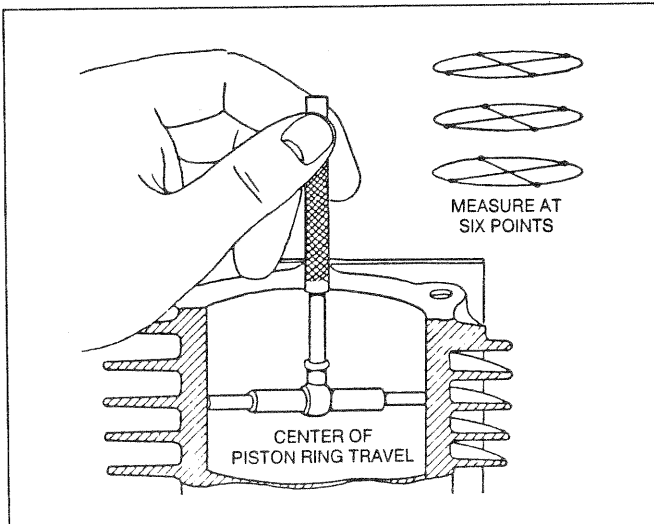

Figure 7. Checking the Cylinder Bore
Always inspect the engine cylinder after the engine has been disassembled. A close visual inspection will reveal any cracks, stripped bolt holes, broken fins, damaged cylinder walls, etc. Use a telescoping gauge and a dial indicator, or an inside micrometer, to measure the size of the cylinder bore. Take measurements at right angles and at six points along the cylinder bore, as shown in Figure 7.
- Check the cylinder bore frequently (Figure 7). **ALWAYS HONE 0.25mm (0.010"), or 0.51mm (0.020"), or 0.76mm (0.030") ABOVE THE STANDARD DIMENSIONS GIVEN ON PAGE 11.**